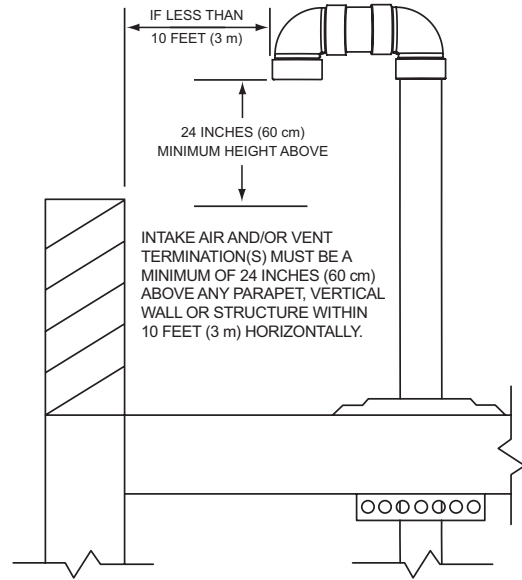

**Figure 16. Vertical Termination(s) - Intake Air and/or Vent (Exhaust)**
2. If installing only the vent (exhaust) piping in a Power Vent configuration vertically through the roof, ensure that all exterior vertical clearance requirements, shown in **Figure 16** and **Figure 17** (page 24), are being maintained. These clearances and those cited by local and national codes must be maintained.
- The bottom edge of the vent termination must be a minimum of 30 cm (12 inches), 45 cm (18 inches) in Canada, above the average or expected snow level as shown in **Figure 16**.
- The bottom edge of the intake air and vent terminations must be a minimum of 30 cm (12 inches), 45 cm (18 inches) in Canada, above the average or expected snow level as shown in **Figure 16** and **Figure 18**.
8. Suspend the pipe(s) through center of hole using field supplied metal strapping or equivalent support materials as shown in **Figure 16**.
9. Slide a roof boot or equivalent flashing over the pipe and secure roof boot or equivalent flashing to roof (see **Figure 16**) and seal around the flashing.
10. Install the factory supplied intake air and/or vent termination(s) using field supplied pipe and one field supplied 90° elbow as shown in **Figure 16**. The short section of pipe that connects between the field supplied 90° elbow and the factory supplied termination must not be excessive in length. The exposed portion of this pipe shall be no more than 5 cm (2 inches). See **Figure 16**.